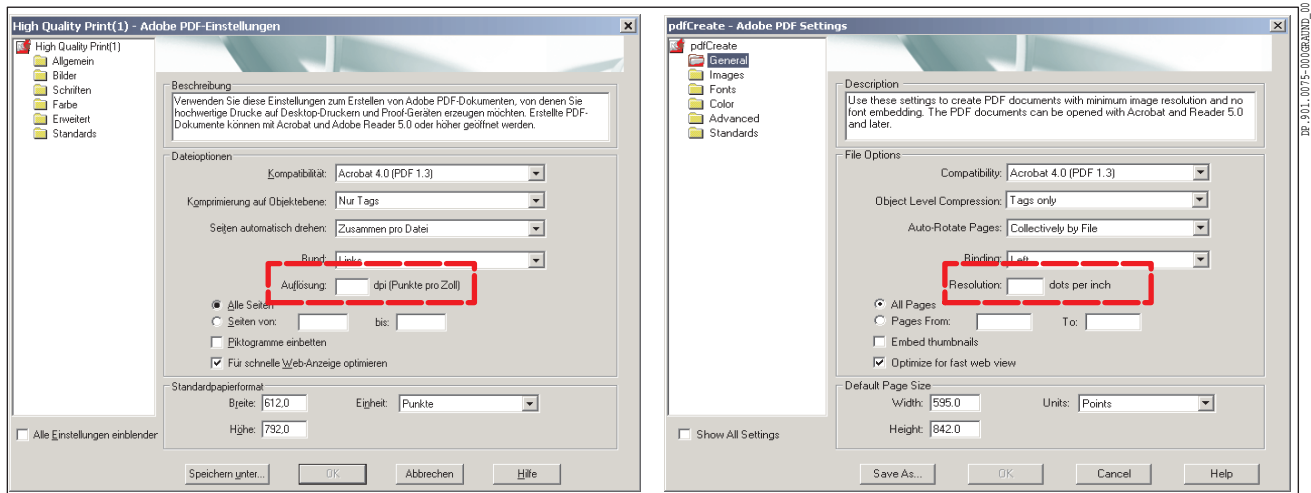

Fig. 39 The **General** section
3. Set the other parameters as shown in Fig. 39. The other parameters are preset to the standard configuration except for **Compatibility**.
1. Set the parameters in the **General** section as shown in Fig. 39. Set the **Resolution** to the exact output resolution of your imagesetter.